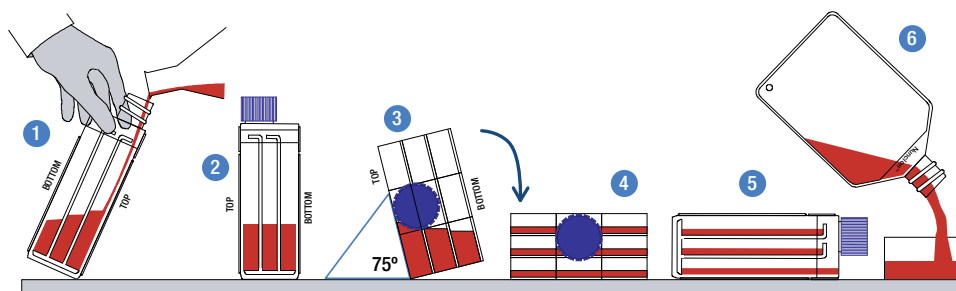

Figure 1. Seeding and harvesting of cells cultured in a TripleFlask culture flask.
### Description of steps (Figure 1):
6. Once the suspension is distributed, rest the flask on its side, and then hold the flask at a 75° angle to the work surface for a few seconds to help ensure equal, final distribution (see Figure 1, step 3).